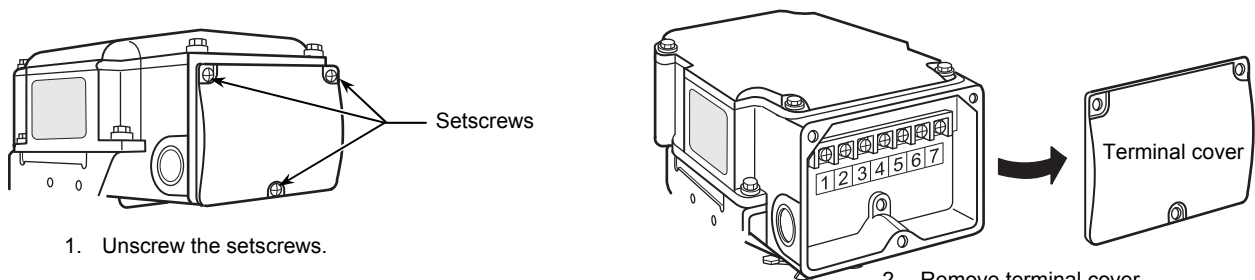

Figure 6. Terminal cover removal
- 2) Unscrew the 3 setscrews (M4 × 10) of the terminal cover and remove the terminal cover, as shown in Fig. 6.